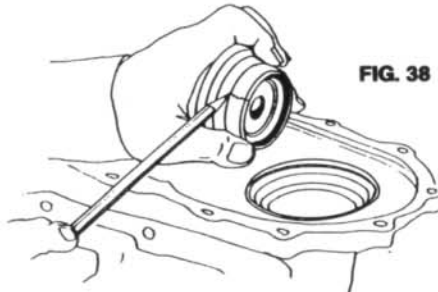

FIG. 38
**NOTE:** THE STEP OF THE DRIVER PLUGS, DRIVES CUPS INTO POSITION. IF THE CUP DOES NOT SEAT AGAINST THE PROPER STEP OF THE CUP DRIVER, THE BEARING CUP MAY FRACTURE DURING INSTALLATION. (Fig. 38)